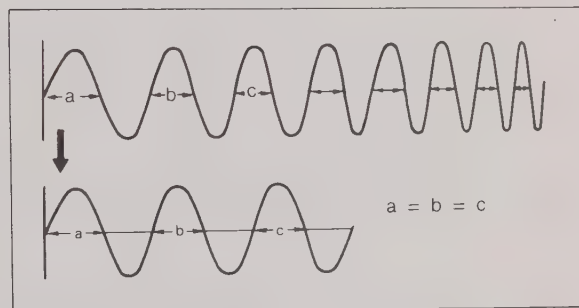

Fig. 29. Linearity Adjustment.
1. Select 20 μ s/div sweep time and 5X MAG. Apply 250 kHz sine wave at 6 divisions amplitude. Adjust TC3 for best linearity i.e., so each cycle has equal spacing (Fig. 29).
2. Set sweep time to 0.2 μ s and apply 25 MHz sine wave (20 MHz for Model 1525) at 2 divisions amplitude. Pull 5X MAG switch out and use horizontal POSITION control to start wave at left edge of scale. Adjust TC4 for best linearity (Fig. 29).